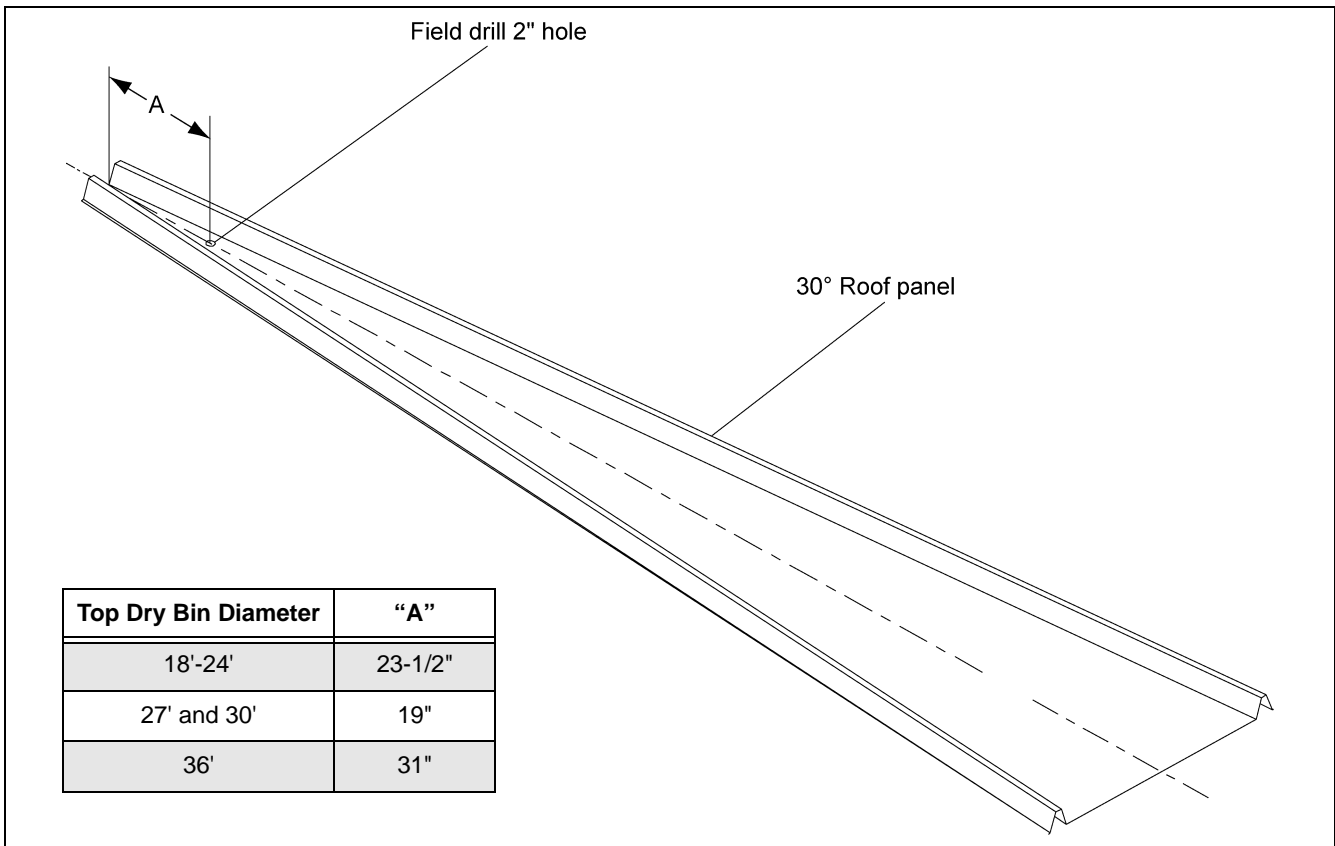
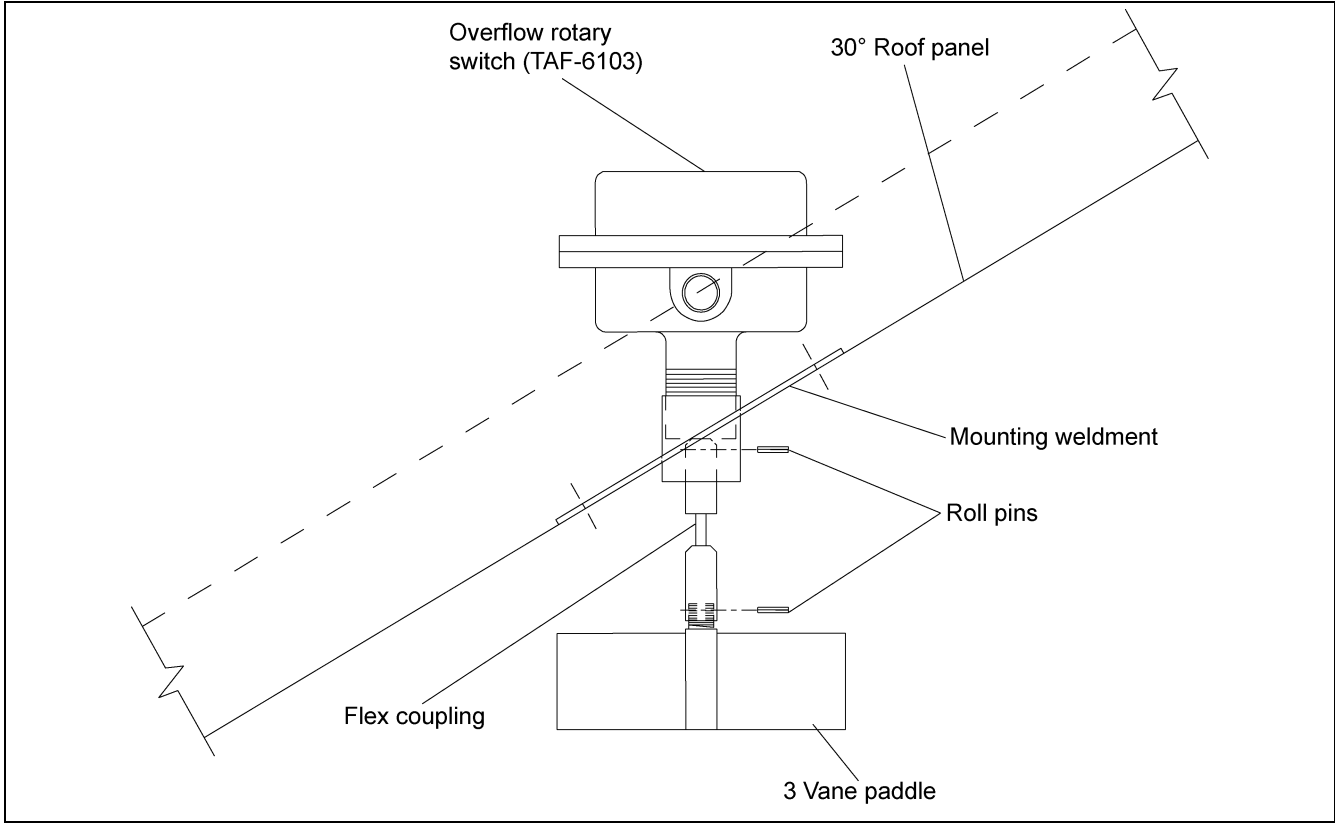

Figure 3L Drying Chamber Rotary Switch Placement
Figure 3M Drying Chamber Overflow Rotary Switch
1. Drill a 2" diameter hole through the roof panel at the location shown *in Figure 3L on Page 20*.
2. Use the mounting plate as a pattern and drill four (4) 3/8" holes through the roof panel at the switch location so the plate can be bolted to the roof.
8. Attach the 3 vane paddle to the flex coupling as shown *in Figure 3M on Page 20*.